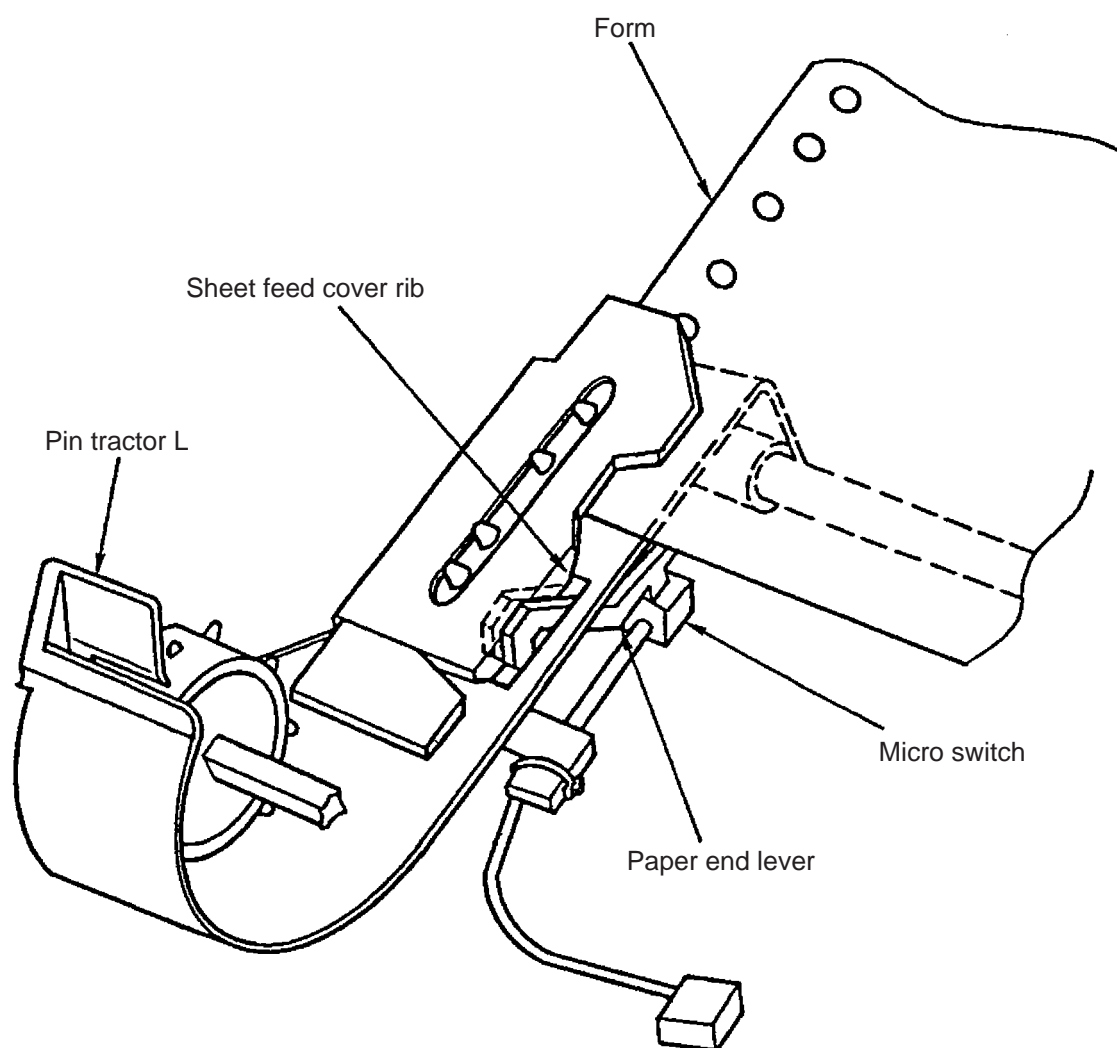

Figure 2-13 Rear form end detection mechanism
2.3.6 Paper End Detection Mechanism (See Figure 2-13)